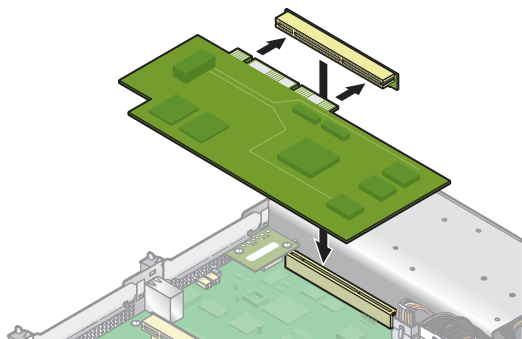

FIGURE 4-5 PCI Card and Riser
6. Install the PCI card in the riser assembly (see FIGURE 4-5).